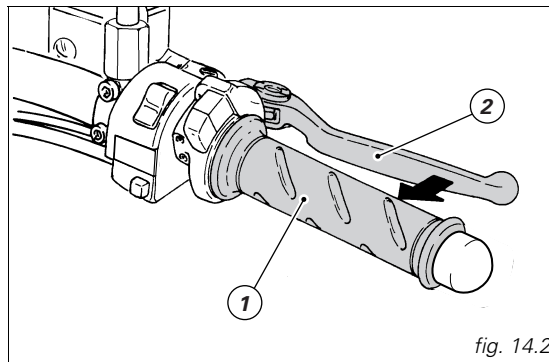

fig. 14.2
**Throttle twistgrip** (fig. 14.2)
**Front brake lever** (fig. 14.2)